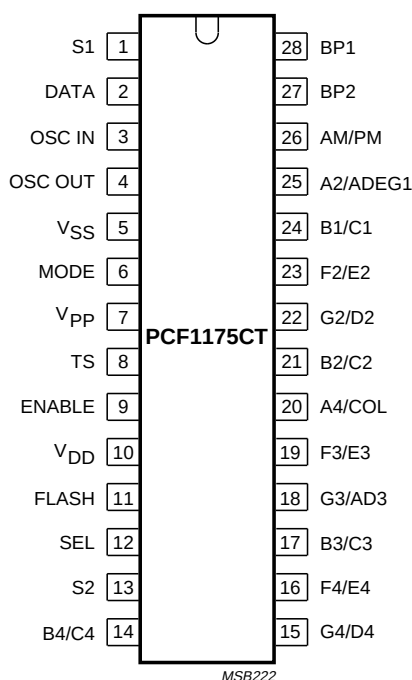

Fig.1 Pin configuration, PCF1175CT, (SO28).
1. See Fig.1 and Chapter “Package outline” for pin layout and package details.